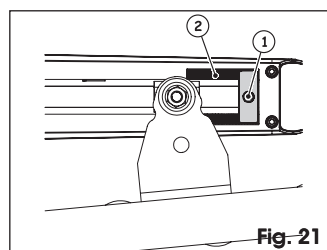

Fig. 21
- Loosen the securing screw, figure 21 ref. ①. The screw does not need to be completely removed.
The mechanical stop is coupled to a toothed sector, figure 21 ref. ②. In the case of obstructions during movement, check that the coupling is free. DO NOT USE FORCE.